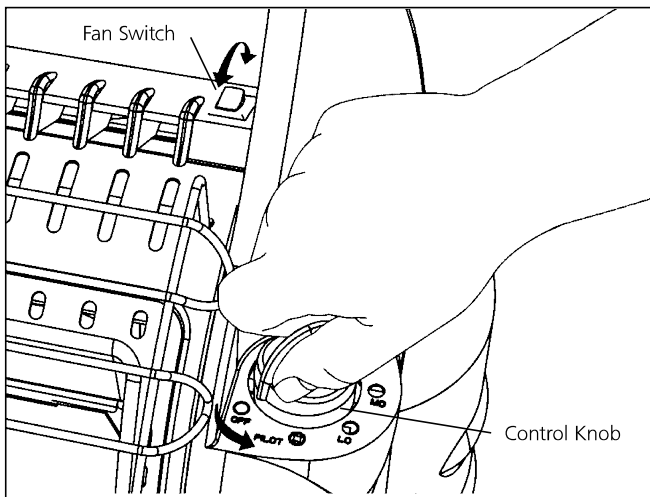

Figure 1
- Make sure five-position Control Knob is in "OFF" position; see Figure 1.
- For added heat circulation turn fan switch to on. The fan switch is located just left of control knob side handle support. See Figure 1.
- Make sure five-position Control Knob is in "OFF" position; see Figure 1, at left.